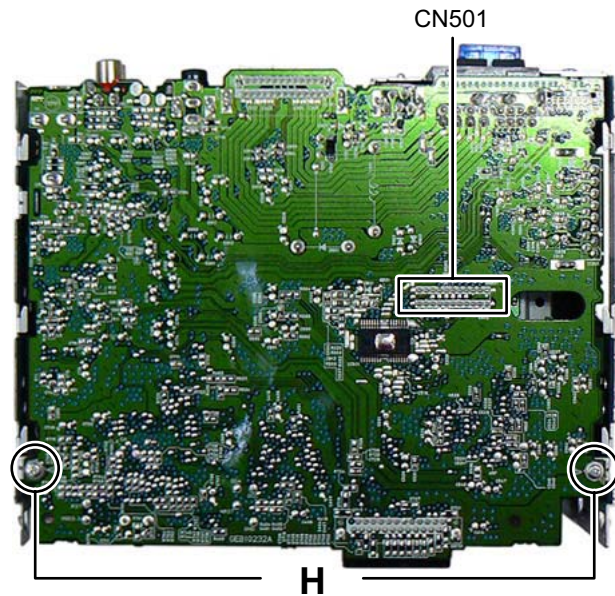

Fig.3-6
- (2) Disconnect the connector CN501 connected to MAIN BOARD assembly and CD MECHANISM assembly. (See Fig.3-6)